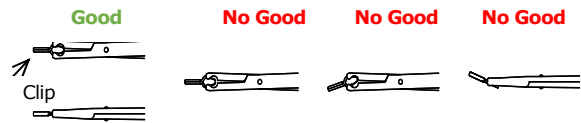

Fig. 3
- 2) Most importantly, the clip should be correctly held using the clip-applying forceps designed exclusively for this product so that the spring portion of the clip is entirely wrapped in the jaw of the Anastomosis Clip applying forceps. (Figure 3) Holding the clip incorrectly in the jaw or holding the clip using forceps with mismatched size other than the clip applying forceps designed exclusively for this product, may damage or break the clip. The clip damaged by such improper holding may cause a significant reduction in the closing force, an offset at the tip of clip blades, and/or inversion; thus, the officially claimed closing force cannot be guaranteed in such cases.